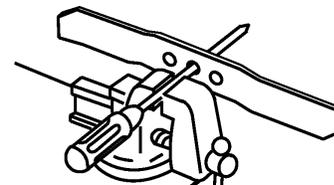

**Figure 26**
**Note:** The blade should not be ground more than 5 inches (127 mm) from the outside ends and no less than 2 inches (51 mm) from the trailing edge (Fig. 26).